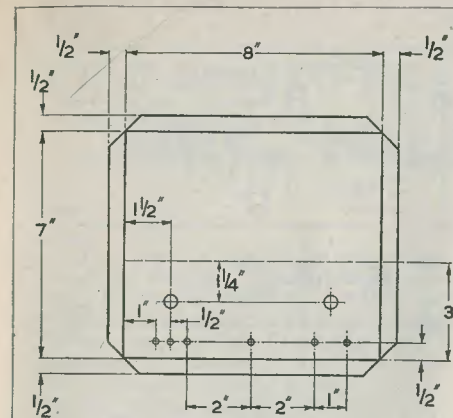
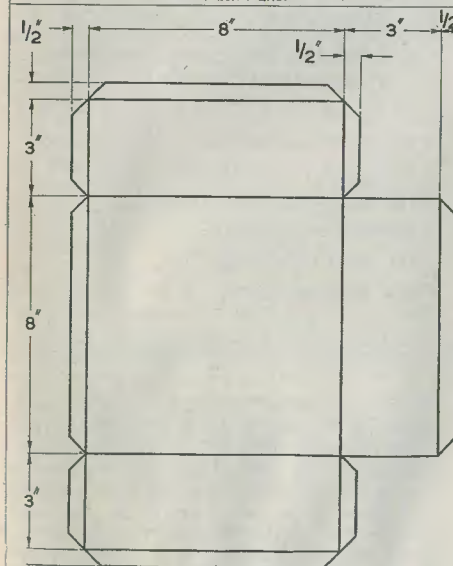
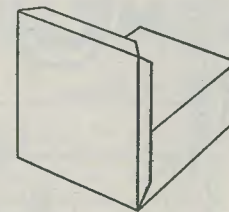

FIG. 1
FIG. 3
FIG. 4
(1) Remove the link between contacts (B) and (D) on the connecting block of the "Liton" unit. (See Fig. 4, page 689, April issue.)
(2) Connect a wire from terminal (I) of the "Liton" relay to the centre of the slide switch instead of to (A) of the terminal block.
(3) Connect the terminal of the changeover switch, near the on/off switch, to (A) on the connecting block, and the terminal furthest from the on/off switch, to (B) on the connecting block.
(4) Join (B) to (G) on the added secondary relay block.
(5) Connect the live and neutral wires to (F) and (H).
(6) With a length of wire, join (I) to one wire of the car wiring going to the side and tail lights.
(7) Connect the parking light between (A) and chassis.
First take a piece of aluminium 9in by 8in and mark off as in Fig. 1. Drill the holes first and then bend the edges at right-angles. Now paint with black crackle paint and put aside to dry. Take a piece of aluminium 15in by 12in and mark off as in Fig. 3 and cut out as shown, then bend the sides and back at right-angles to form the chassis. Place the front panel up to the chassis and mark off holes to join the two pieces together, after having bolted the chassis at its corners. The finished unit should now appear as in Fig. 4.